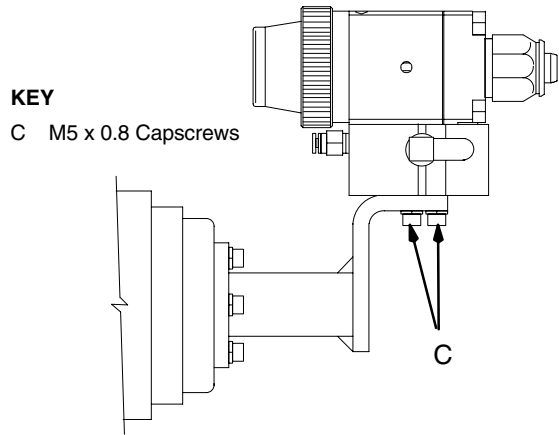

Fig. 3: All Manifolds
To mount the gun on a stationary support, see Fig. 3. Also refer to the mounting hole layout on page 30. Attach the gun to the support with two M5 x 0.8 cap screws (C). The screws must be long enough to engage the threaded holes in the gun manifold to a depth of 1/4 in. (6 mm). The tip of the gun should usually be 8 to 10 in. (200 to 250 mm) from the surface of the object.